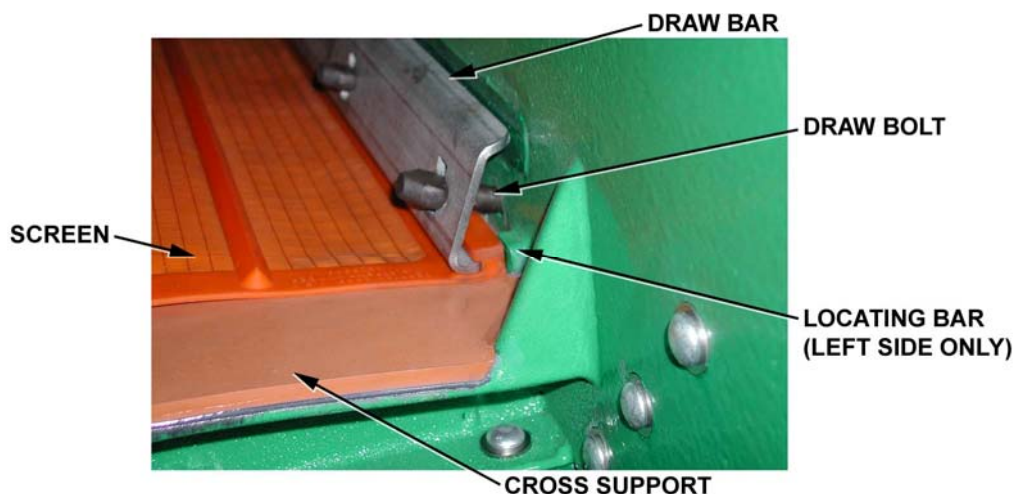

Figure 3-12 Draw Bar Engagement With Hook Strip
2. Place screen panel on bed of screen frame, slide panel into contact with locating bars on left side of screen bed (Figure 3-12), and slide against shoulder of cross support at the feed end of the screen frame.